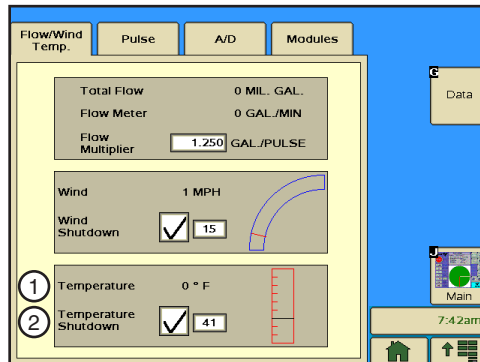

Figure 78-1 1. Temperature
1. View the current temperature reading in the **Temperature** field. Refer to Figure 78-1.